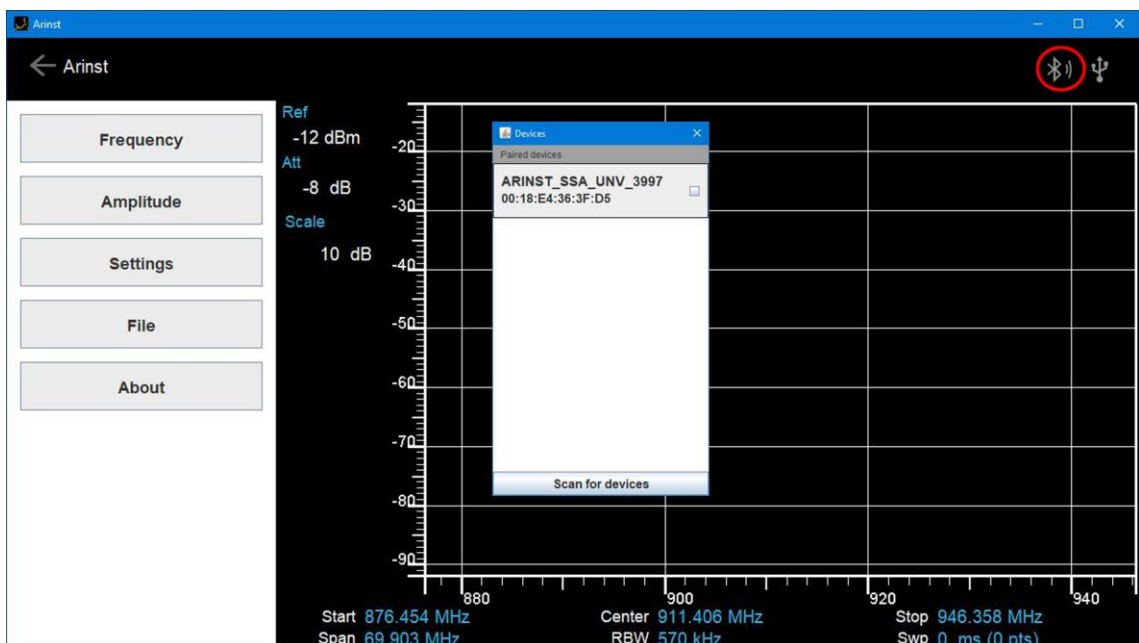

Figure A14 - Connecting PC to the spectrum analyzer via Bluetooth
4.6. Launch the Arinst SSA application by double-clicking on the shortcut located on the desktop of your PC. In the Arinst SSA application window that opens, click on the Bluetooth symbol in the upper right corner. In the **Devices** window that appears, select the name of your spectrum analyzer (Figure A14). In addition to the name of the device, the window displays its MAC address. An overview of ARINST devices that connected to a PC via Bluetooth is made with the **Scan for devices** button.